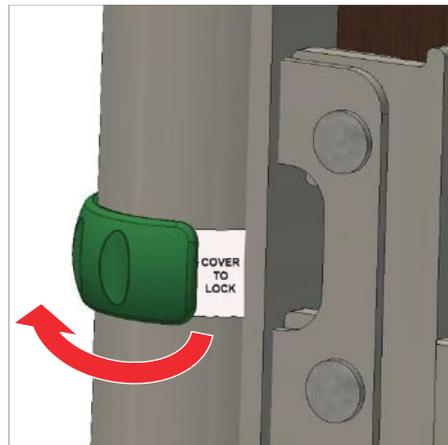

Figure 2: Collar unlocked
7. Rotate the locking collars (*Figure 2*) retaining the transport bracket to reveal the sticker on one bed end and carefully remove the bed end from the bracket; allowing the remaining bed end to lean against a wall.
10. Remove the transport bracket from the second bed end by rotating the locking collar to reveal the label (*Figure 2*).